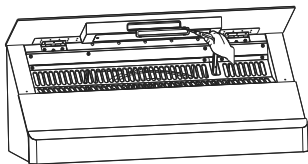

Fig.8
Light replacement (Fig.8)
- After fully opening the sliding glass panel, remove the power plug, gently pry out the lighting fixture with a screwdriver or a small knife, and pull out the snap-in connector. Then, the lighting fixture can be removed (Fig.8).